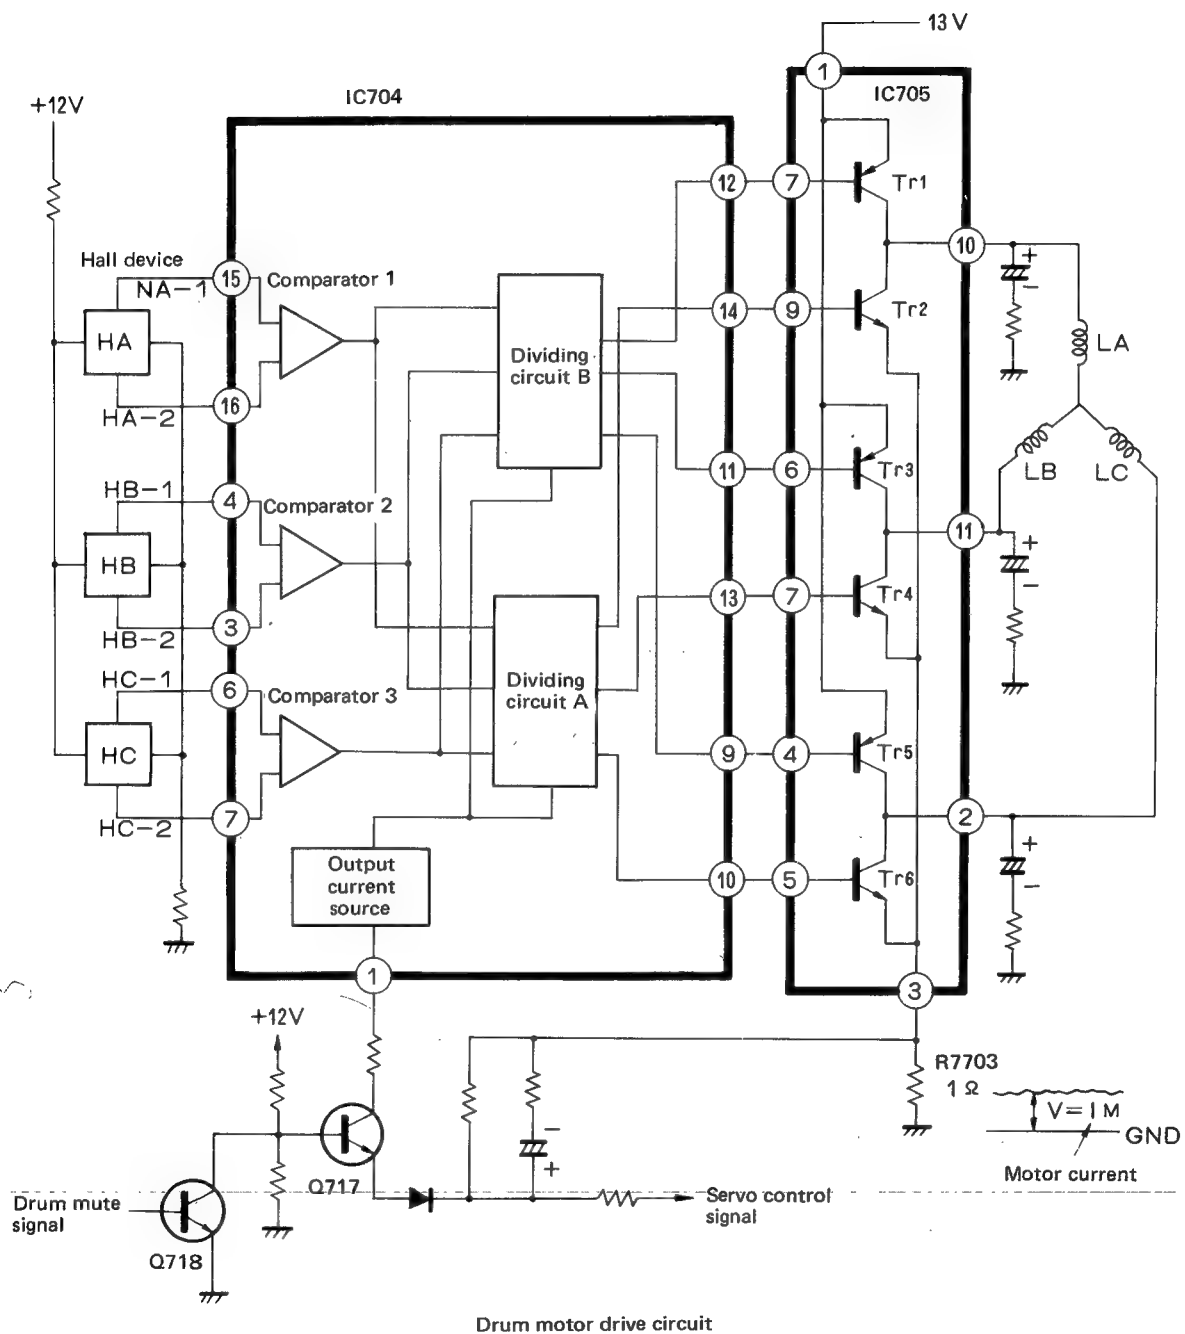

Figure 3-12
Figure 3-12 shows the drum motor drive circuit, Figure 3-19 operation of the drive circuit, and Figure 3-20 how the motor operates. As Figure 3-12 shows, comparators 1-3 detect outputs of the three Hall devices and dividing circuits A and B turn on and off Tr1-6 with comparator outputs to control the direction of motor rotation. The speed and phase of motor rotation are controlled by controlling the current output from pin (1) of i707 and emitter voltage of Q719 base ground amplifier with servo control signal (speed + phase). If the phase (speed) of drum rotation slows, servo control signal falls, the base-emitter voltage of Q717 rises, the collector current (current flowing at i704 pin 2) of Q717 increases, the output drive current of i704 increases, motor coil current increases, and phase (speed) rises finally. Part of the motor coil current is fed back to the emitter of Q717 to increase stability.